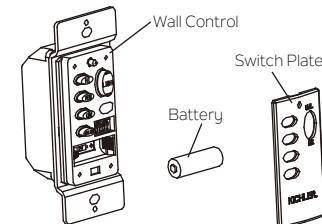

Fig. 14
**Step 3.** Install the 23A 12V battery (included) with wall control system and make sure it is seated correctly. Replace the switch plate. (Fig. 14)